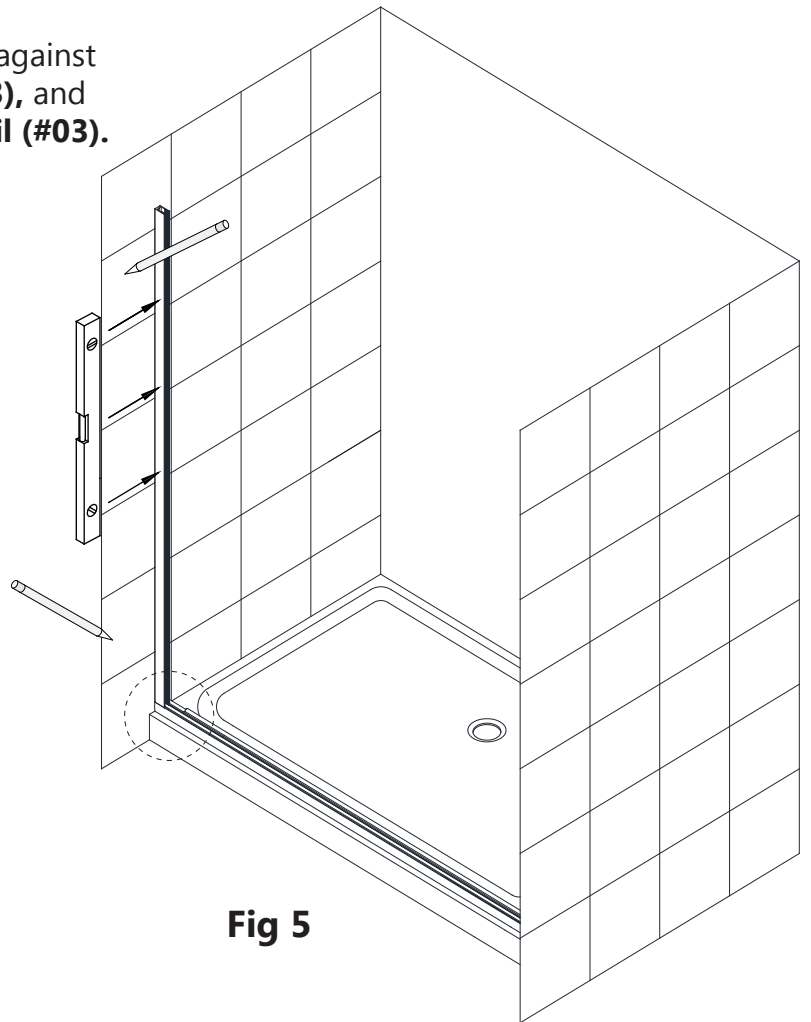

Fig 5
5. Position the **Wall Profile/U-Channel (#17)** against the wall, on top of the **Bottom Guide Rail (#03)**, and flush with the outside of the **Bottom Guide Rail (#03)**. Adjust to plumb using a level. **(Fig 5)**